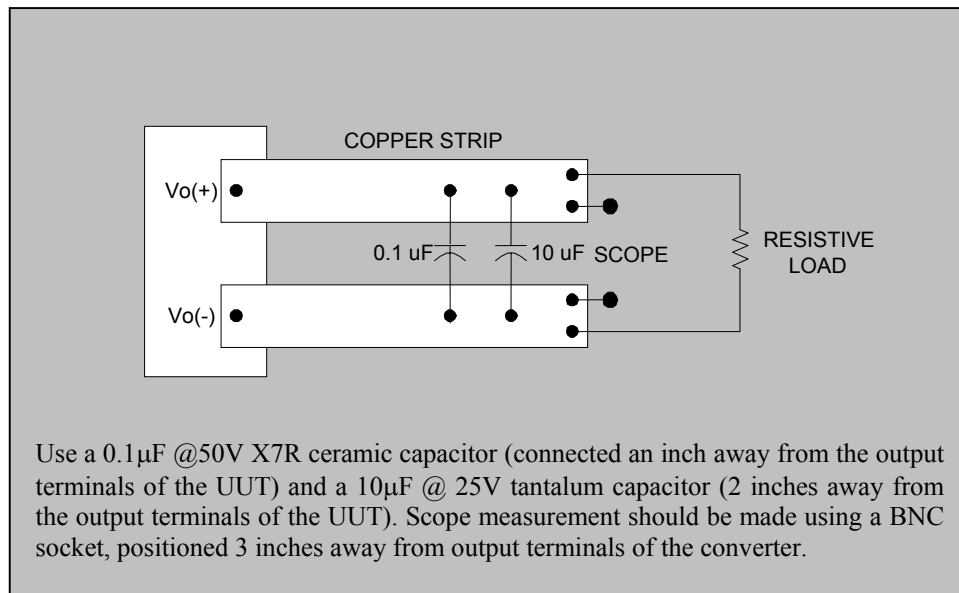

Figure 2. Peak to Peak Output Noise Measurement Setup.
5. Refer to Figure 2 for output ripple measurement setup.